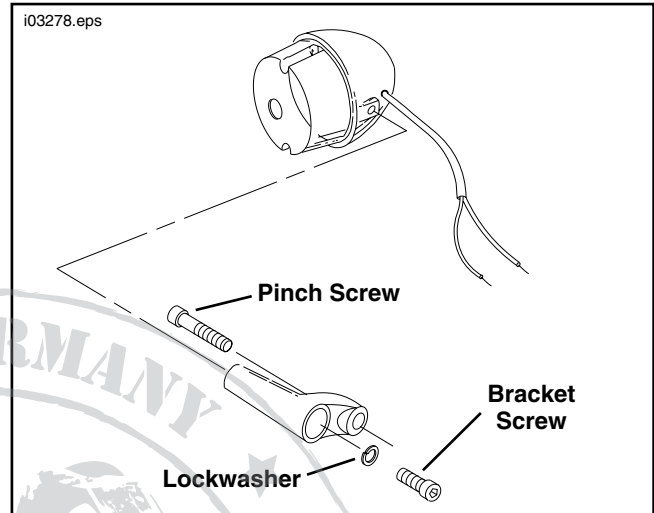

Figure 1. Directional Light Upper Fork Mounting
2. On models in which the directional lights are mounted on the upper fork brackets, see Figure 1 and perform the following: